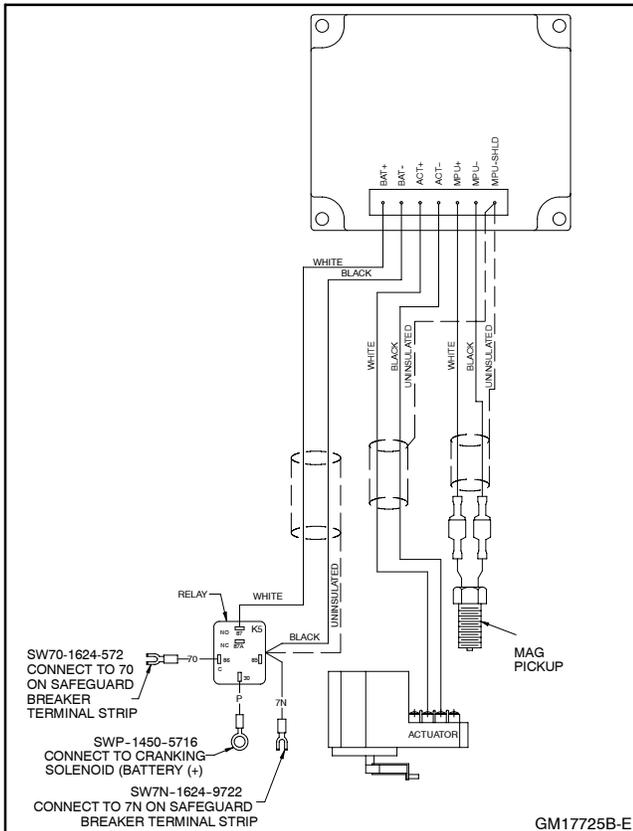

Figure 6 Governor Controller Connections
1.3.4 Attach the engine wiring harness to the governor controller as shown in Figure 6.